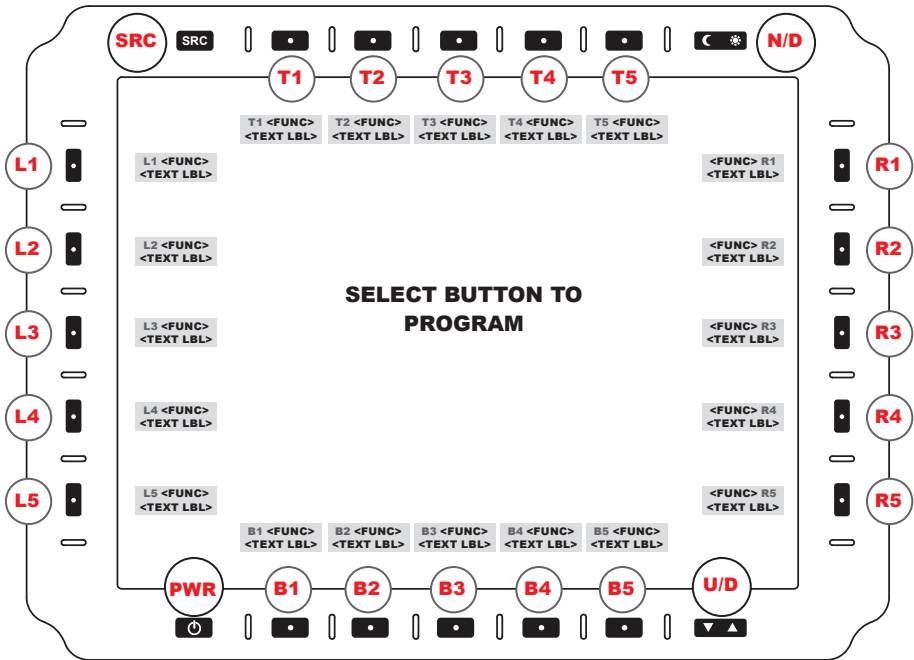

FIGURE 16. PROGRAMMABLE BUTTON MENU (SELECT BUTTON)
PROGRAM BTN (L2). Initiates PROGRAMMABLE BUTTON MENU (Figure 16).
The front bezel twenty (20) softkeys are in a layout of five keys on the left (L1-5), right (R1-5), bottom (B1-5) and top, (T1-5) (Figure 16). Use these keys to select on-screen menu options. The keys are illuminated in Day or Night mode and off in Off mode. Night luminance is subdued to match existing platform night lighting.
BACK (R5). Returns to SELECT BUTTON MENU, (Figure 16).